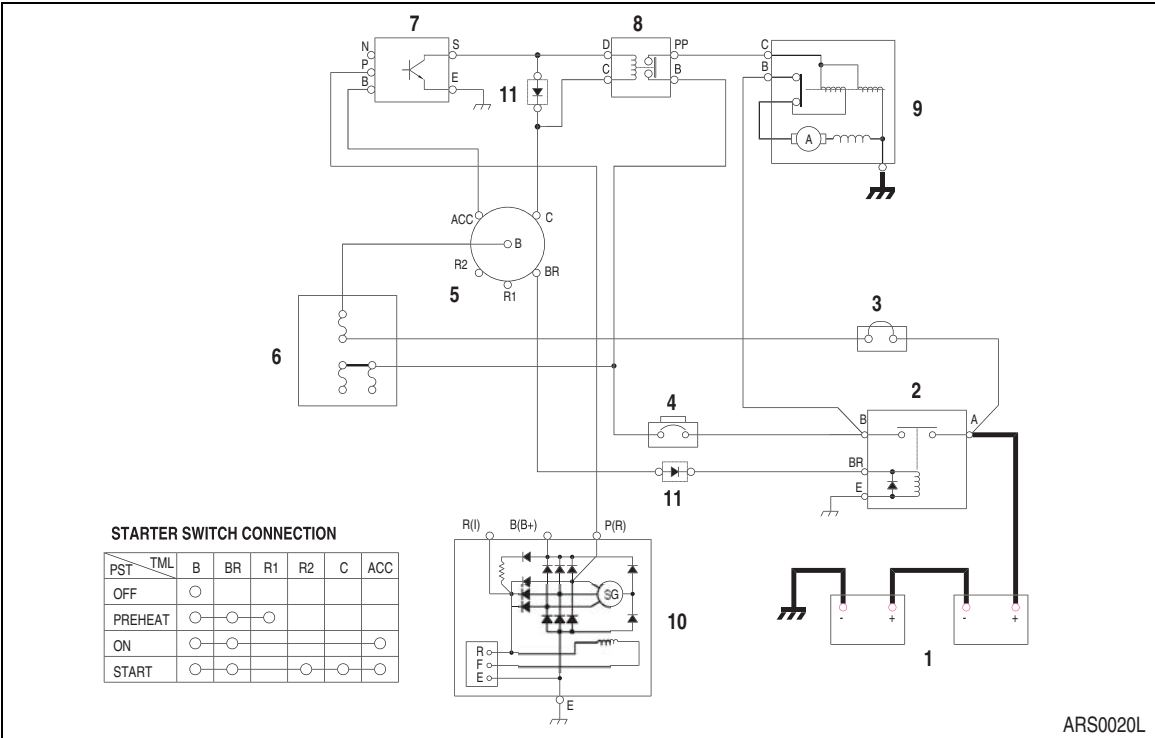

Figure 2 STARTER CIRCUIT (1) - WHILE STARTING
When the starter switch is turned to the start position, the "S" and "E" terminals of the starter controller (7) are connected. At this time the contacts in the starter relay (8) are closed by the current flow from the battery (1, Figure 2) → fusible link (3) → fuse box (6) → "B" terminal of the starter switch (5) → "C" terminal of the starter switch (5) → "C" terminal of the starter relay (8) → "D" terminal of starter relay (8) → "S" terminal of starter controller (7) → "E" terminal of the starter controller (7) → ground.
The current flows from the battery (1) → "A" terminal of the battery relay (2) → "B" terminal of the battery relay (2, Figure 2) → "B" terminal of the starter (9). The starter motor is rotated and the engine is started.